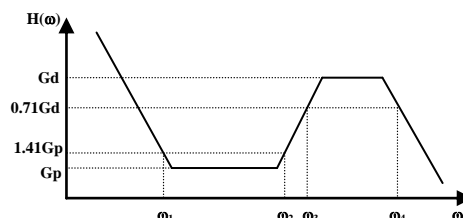

Figure 11. Transfer Function of the Compensation Network
The transfer function of the compensation network, defined as  $H(\omega) = VTEC(\omega) / TEMPOUT(\omega)$ , is shown in Figure 11.
- d.  $C_D \cdot R_I$  determines the corner frequency,  $\omega_2 = 1/(C_D \cdot R_I)$ , where the differential component starts picking up (see Figure 11), as the frequency goes up.